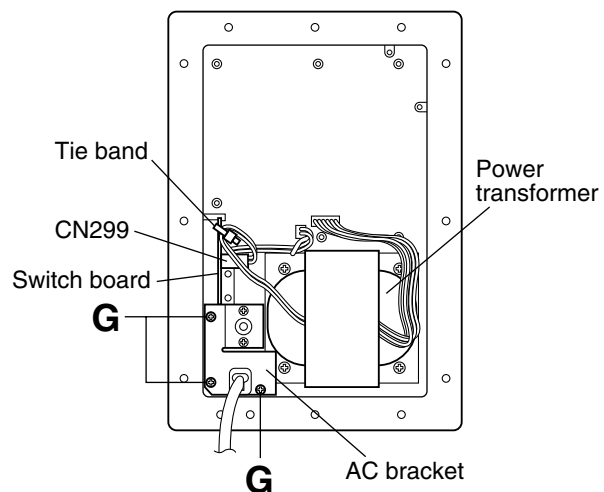

Fig.6
■ Removing the switch board (See Fig. 6.)